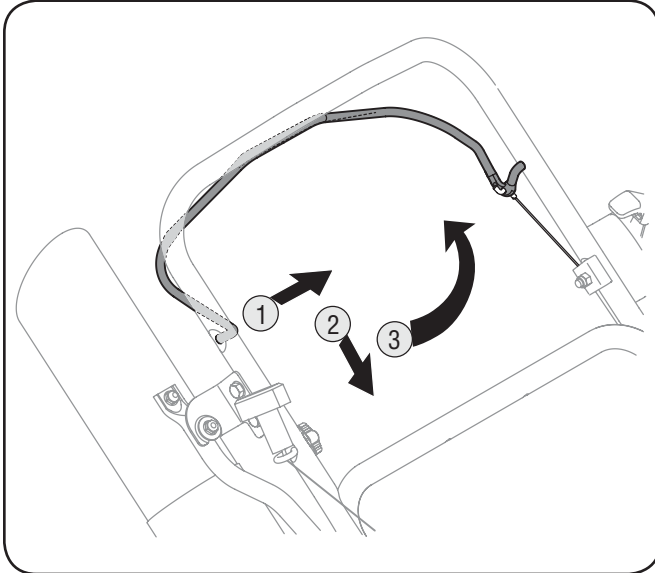

Figure 6-5
1. Push the right side of the control out of the right hole in the upper handle. See Fig. 6-5.
3. Pivot straight up to remove it from the left hole in the upper handle. See Fig. 6-5.